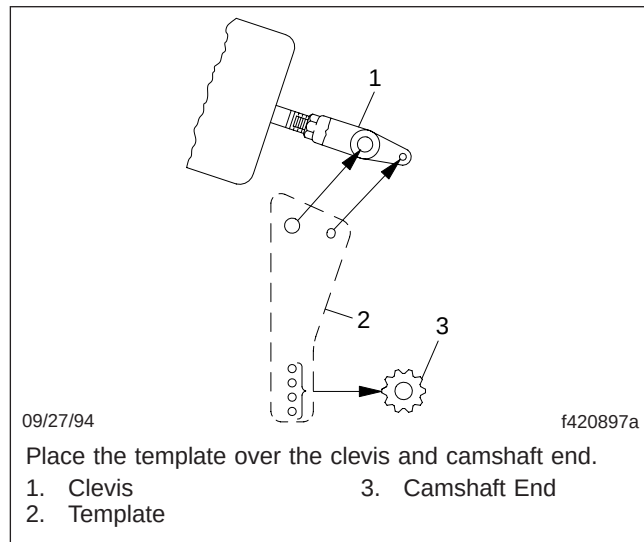

Fig. 6, Template Placement
- 7.8 With the brakes fully released, place the installation template over the clevis and camshaft end. See **Fig. 6**.